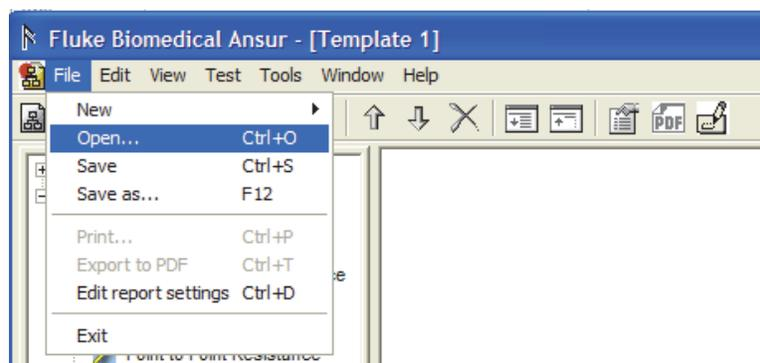

Figure 3-1. Open Dialog Box
1. Click **File | Open** on the menu bar or click on the Open Template toolbar button (📁) to open the dialog box shown in Figure 3-1.